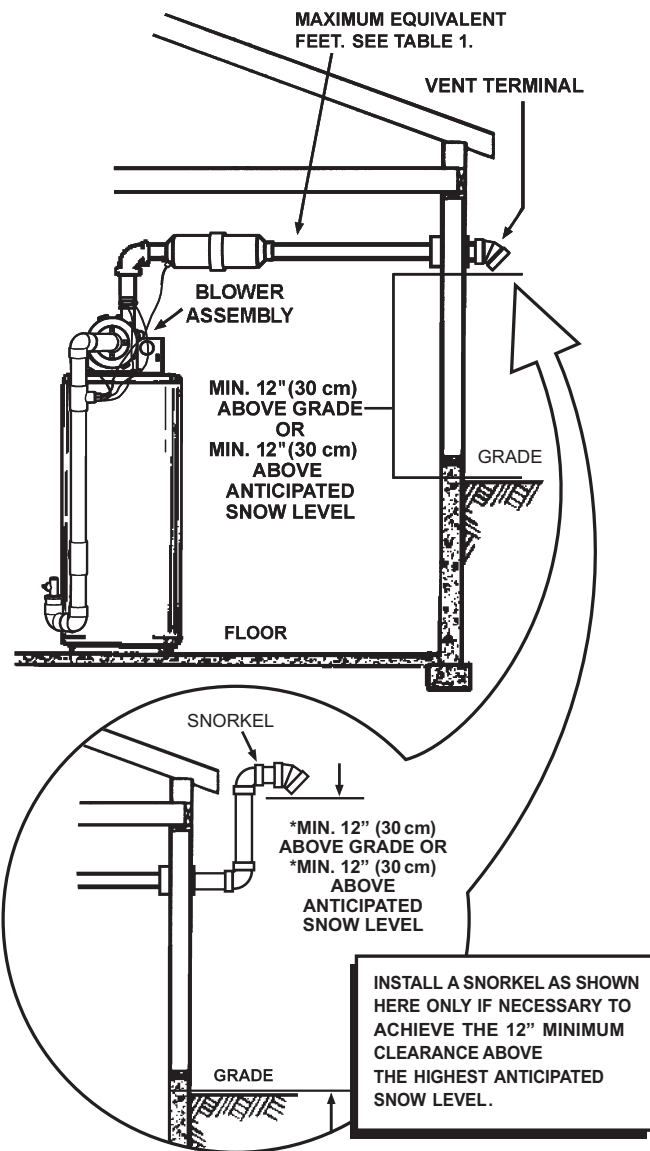

FIGURE 20
The first step is to determine where the vent pipe will terminate. See Figures 15, 20 and 21. The vent may terminate through a sidewall as shown in Figure 20 or through the roof as shown in Figure 21.
If necessary to achieve the 12" minimum clearance above the highest anticipated snow level, install a snorkel as shown in bottom portion of Figure 20.
1. Vent Termination must extend a minimum of 12 inches (30 cm) above roof or 12 inches (30 cm) above the anticipated snow level to prevent blockage of the vent termination, as shown in Figures 20 and 21.